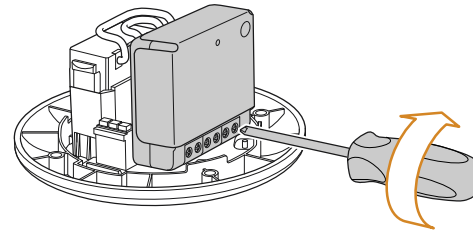

Figure 2
- 3 Screw in the 6 screws of the relay switch, see **figure 2**.